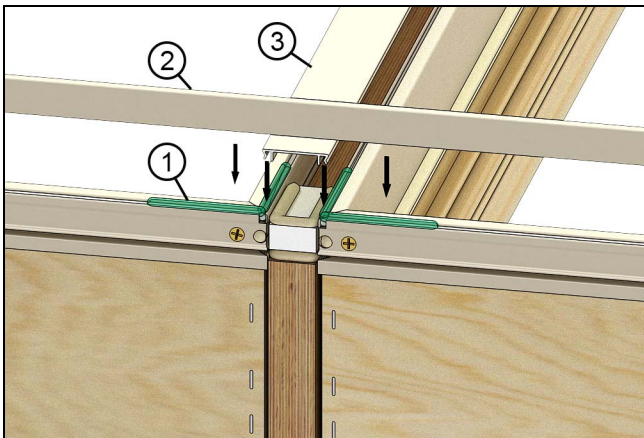

Figure 40
2. Apply a 1/8" bead of clear sealant 2-3" long in the accessory kerf on each end of the mull and at any intersections along both edges of the mull. See Figure 40.